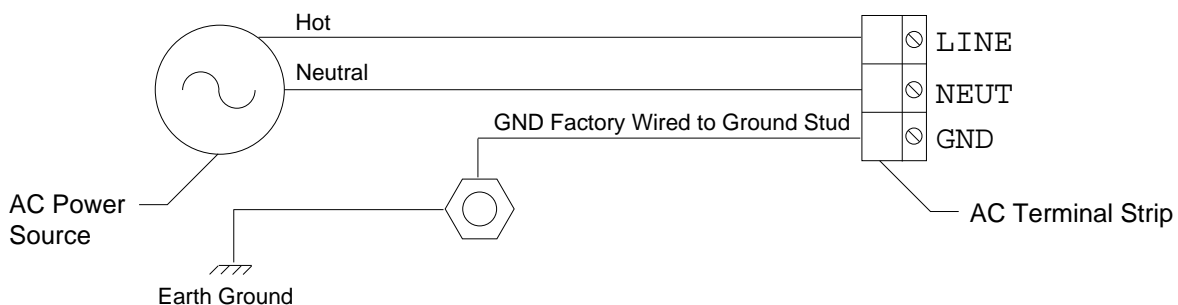

Figure 6: AC Power Wiring
4. Connect the AC power wires to the AC terminal strip and the earth ground wire to the # 10 ground stud as shown in Figure 6.